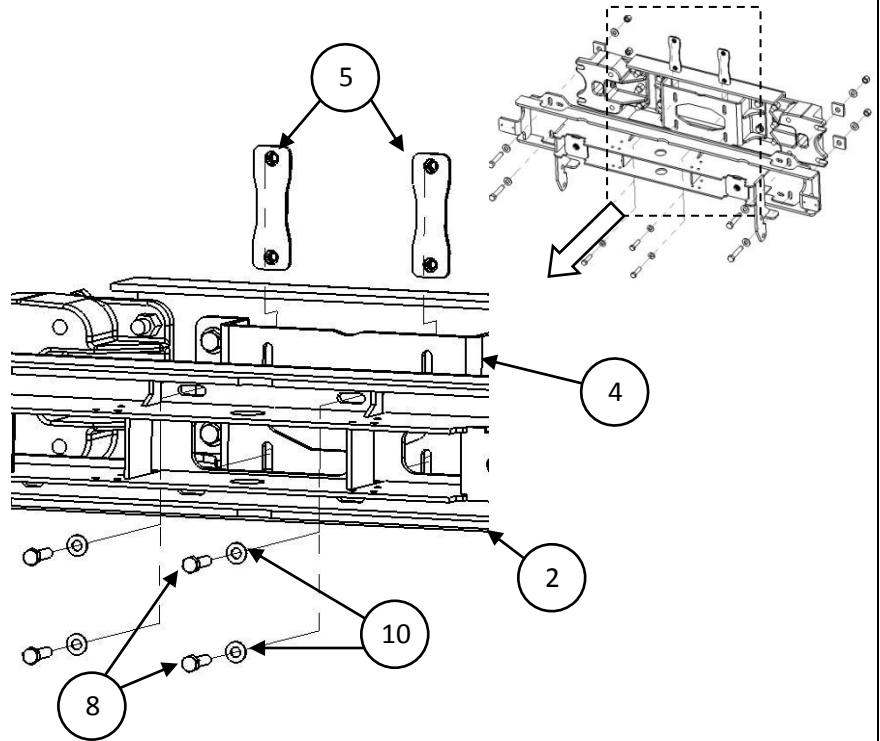
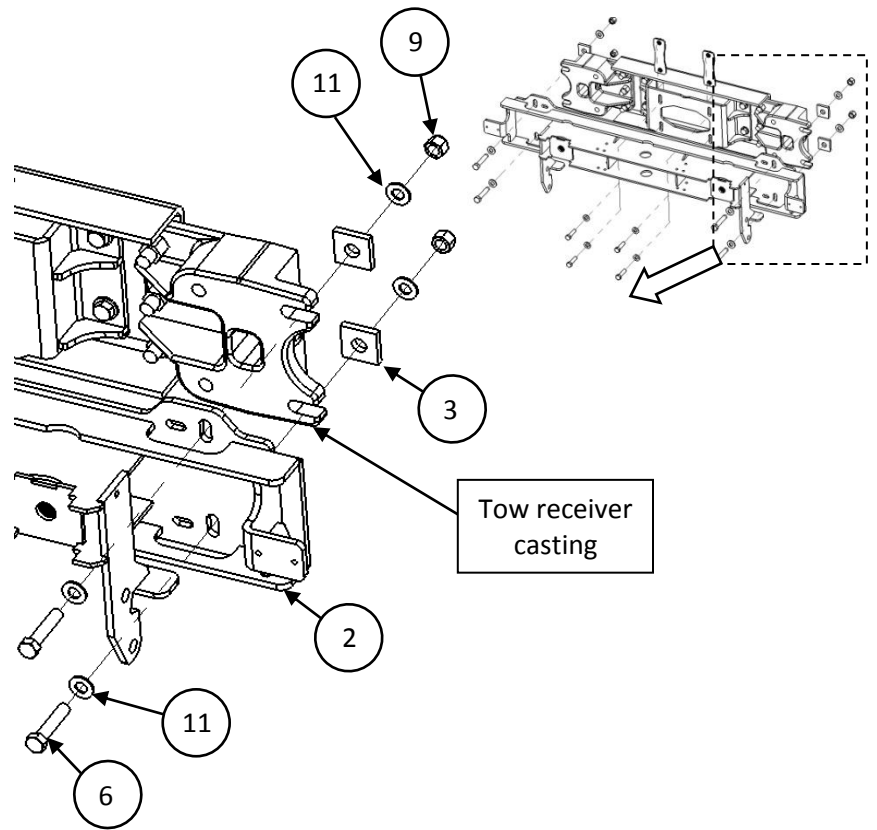

Figure 4a – Herd bracket attached to center mount.
Figure 4b – Herd bracket attached to tow receiver casting.
4. Open bumper. Using crane, lift the bumper (Item 1) and bracket (Item 2) and attach to Herd Center Mount (Figure 4a) and tow receiver casting (Figure 4b). Use supplied shims (Item 12 or 13) to close gap between the Center Mount (Item 4) and bracket (Item 2) if required.